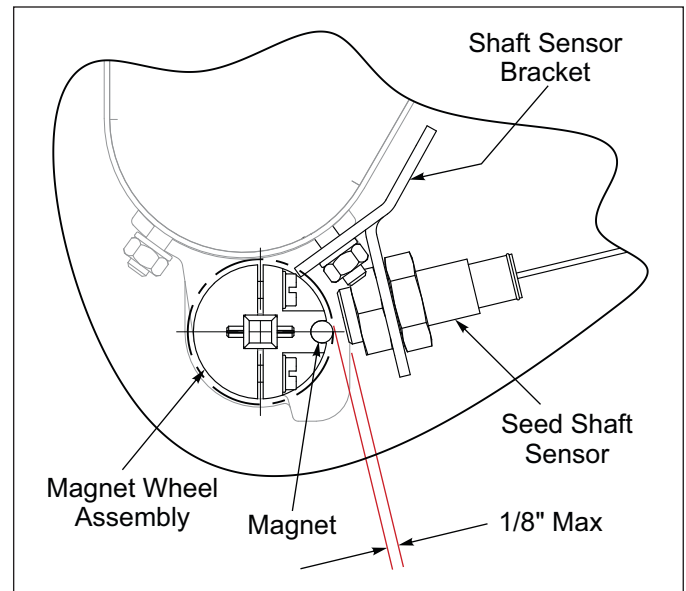

Figure 2-42: Console w/Clutch Control - Detail
6. Slide/Position Seed Shaft Sensor so it is 1/8" from the magnet. **See Figure 2-42.** Tighten both Retaining Locknuts.